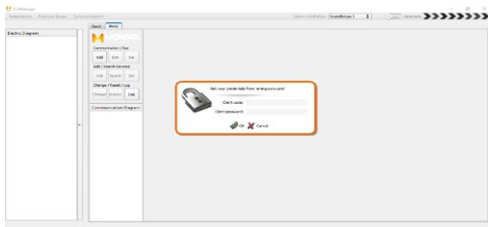

Figure 40 Synchronization – Credentials
- Click on “Credentials”. A pop-up window will appear as the one shown in Figure 40.